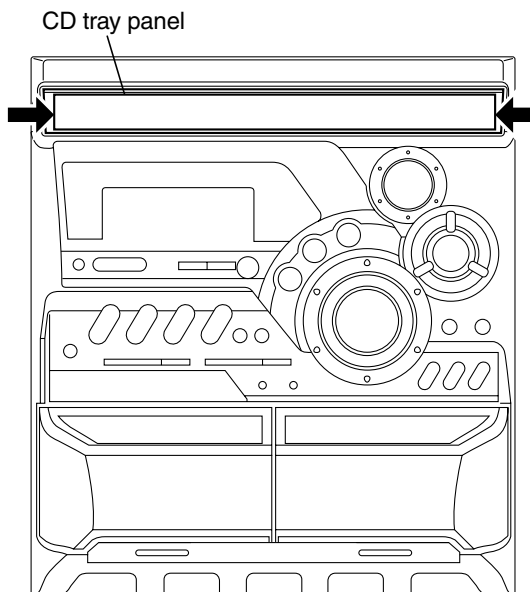

Fig.7
■ Removing the CD changer unit (See Fig.7 to 10)